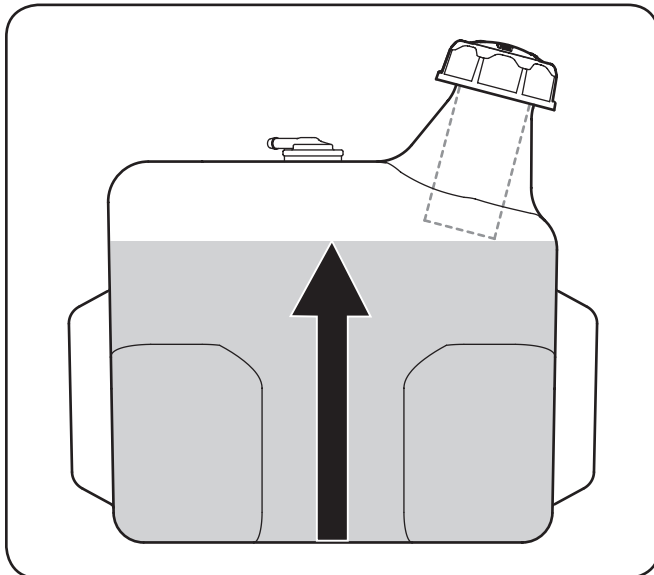

Figure 3-6
**IMPORTANT:** It is important to **NOT** top off your fuel tank when filling with fuel. Leave an expansion area available inside the fuel tank to allow for the fuel to expand and for proper ventilation. Otherwise the unit may not run properly. Fill the tank in accordance with Figure 3-6.